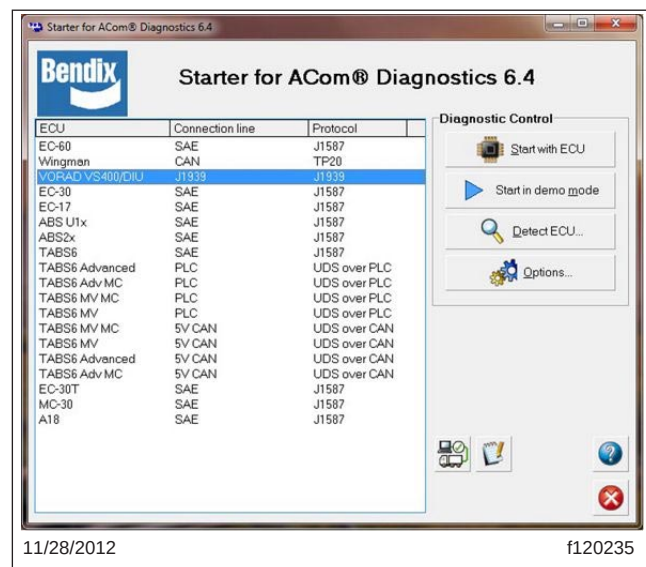

Fig. 4, Starter for ACOM Diagnostics 6.4
4. Select the Vorad VS400 ECU and click "Start with ECU". See Fig. 4.